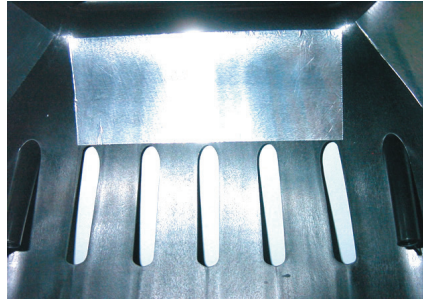

Figure 16 - Reflective Tape and Louvers
- 9. Heater is equipped with heat reflective tape. If loose or damaged, replace tape as shown in Figures 16 and 17. Tape edge should touch top of louver openings.